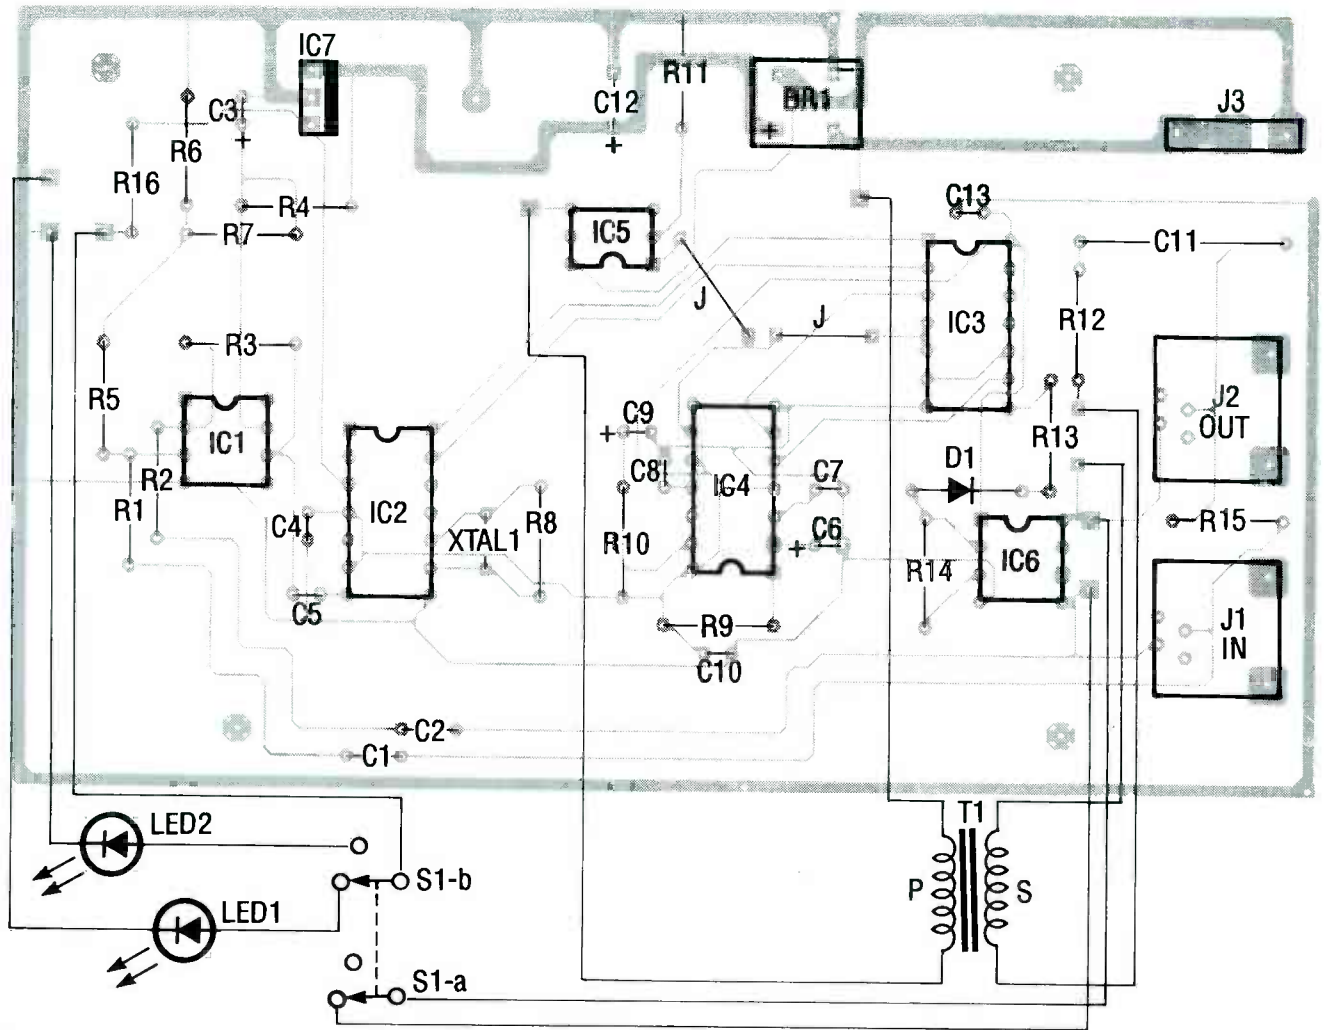

FIG. 3—PARTS-PLACEMENT DIAGRAM. A similar layout can be used if you choose to use perboard instead of a PC board.
A Parts-Placement diagram is shown in Fig. 3. Some builders prefer to use sockets for the IC's, but they are not necessary for this project. The PC board is laid out for a closed-circuit jack for J3; the third pin is not used, but it adds mechanical strength to the power jack mounted on the PC board, and it costs just a few cents more. The modular jacks, J1 and J2, have protrusions that fit through holes in the circuit board; the protrusions can then be flattened out with a hot soldering iron to secure the jacks in place. (Be sure to clean and re-tin the iron's tip after melting the plastic.)
- Figure 3 shows a setup that allows you to watch unscrambled cable channels (or a tape playback) on the second TV that's cable-ready, while viewing scrambled cable or a VCR tape on the main TV set. If a family member decides to play a tape or record a program, you can retreat to the second TV and watch something else.